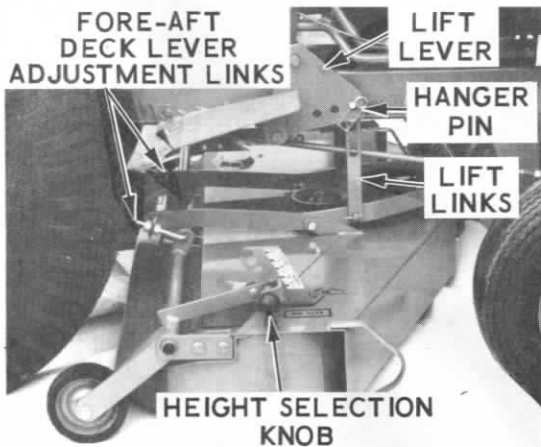

Figure 4.
- Height Selection Lever: See Figure 4